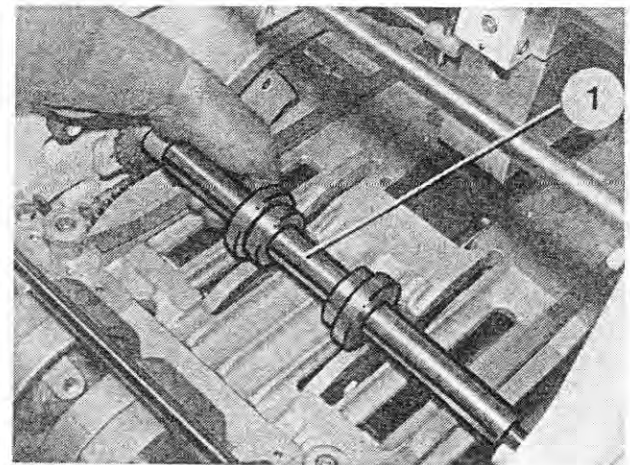

Fig. 134
3. Remove the accelerating roller (Figure 134/1) from the frame of the wrapping unit.